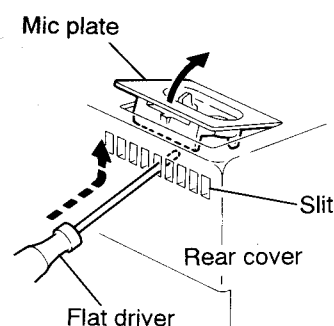

Fig. 7-2
3. Remove the two screws (6) retaining the front panel ass'y and main amplifier and power source P.C. board as shown in Fig. 7-2.
5. Disengage the engagement (A) retaining the main amplifier and power source P.C. board with minus screw driver, etc.